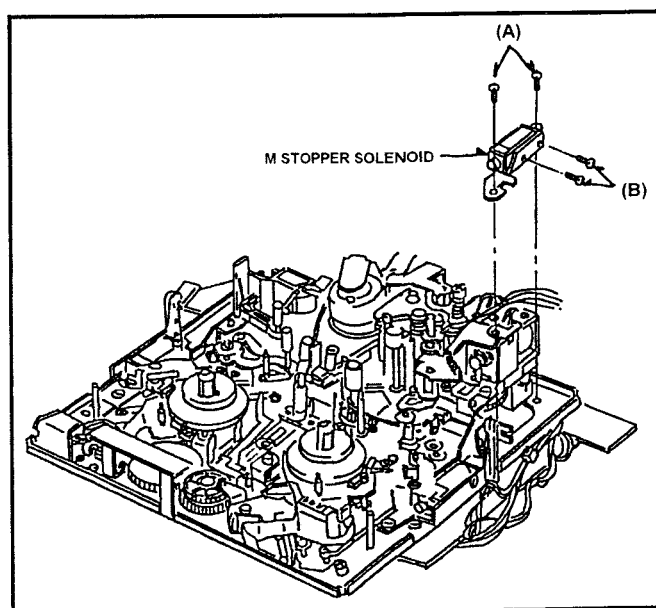

Fig. 6-20-1 Removal of M-Stopper Solenoid
6. Unscrew the 4 screws (A) and (B) and remove the M-Stopper Solenoid as shown in Figure 6-20-1.